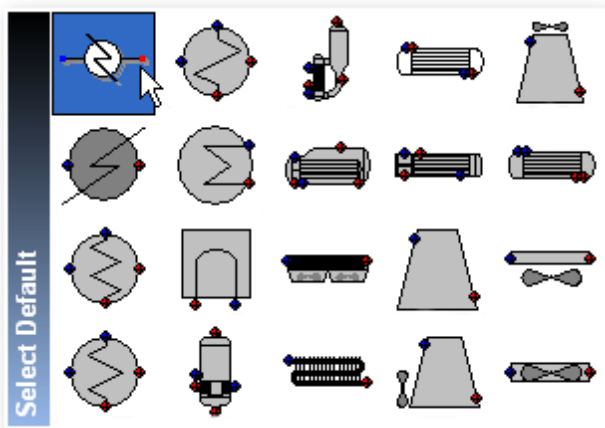

Figure 3: Switching to the single-sided heat exchanger icon
5. Return to the All UnitOps palette, and again click the **Heat Exchanger** icon's black triangle. To switch from the two-sided model to a single-sided model, you'll need to select the appropriate icon (see Figure 3) from the Heat Exchanger sub-palette.